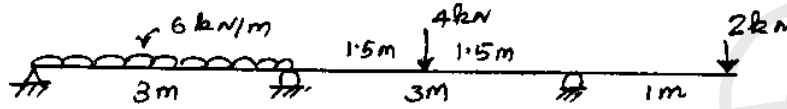

Fig. 4
- (b) For the continuous beam shown in Fig. 4, draw SFD and BMD all the supports are at same level. (16)